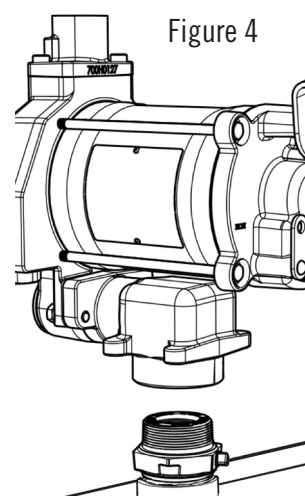

Figure 4
5. Apply an anti-sieze thread compound to the external threads on the bottom of the bung adapter. Install the assembled bung adapter and suction pipe into the bung opening on the tank. Tighten to a fluid / air tight seal (Figure 4).